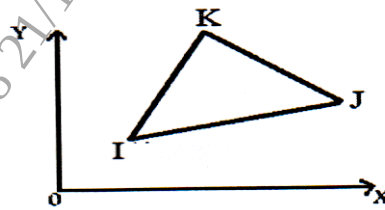

Figure:2
- Q4) a)** Determine x and y coordinate of the interior point P for the CST element as shown in figure 2, Using co-factor method. A CST element is defined by nodes, I (1, 1), J (6, 3) and K (4, 5). The shape functions are $N_1 = 0.2$ and $N_2 = 0.3$. [4]